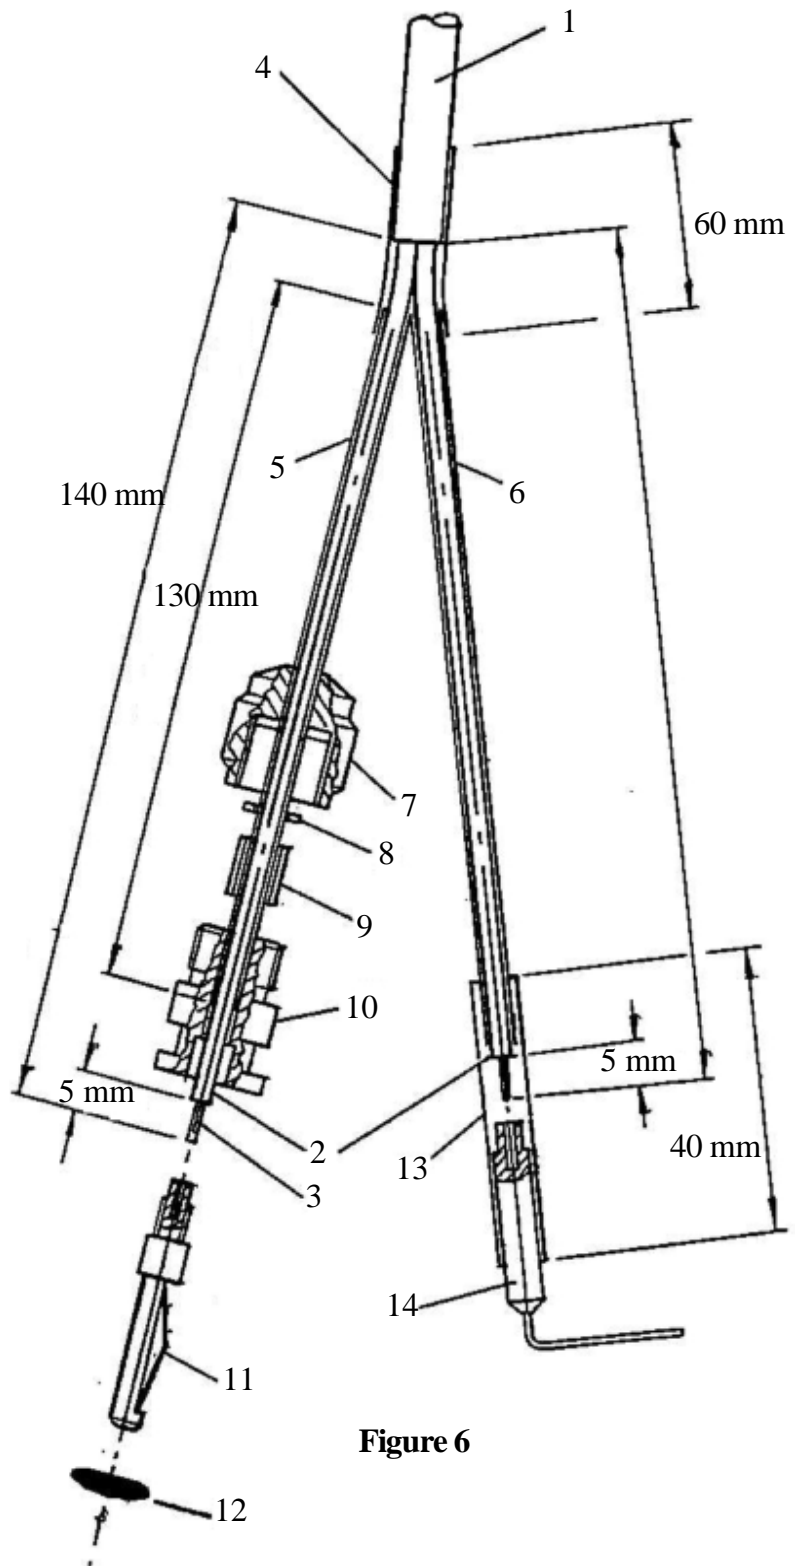

Figure 6
- a. Shorten cable (1) to new length and strip outer insulation (2) to 140mm (red plug end) and 120mm (black plug end).
- b. Expose 5mm of conductors (3) and twist strands tightly, then solder.
- c. Slide on heat shrink sleeve (4) red (5), and black (6) identifying sleeves.
- d. On the positive (+) end, push plug cap (7), washer (8), rubber bush (9) and plug holder (10) over cable.
- e. Lock conductor into plug pin (11), then slide back into plug holder and screw plug cap into place.
- f. Fit rubber seal (12) to plug pin.
- g. For the negative (-) end, slide on black heat shrink tube (13). Push conductor into the earth pin (14) and solder in place. Bring heat shrink sleeve forward onto earth pin and fix down with heat.
- h. Fix down heat shrink sleeve (4) over main cable termination.
- i. Repairs can be made individually to the positive (+) end with steps 2, 4, 5, and 6 and to the negative (-) end, by following steps 2 and 7. However, the shortened ends of the cable might be difficult to assemble conveniently onto the current meter, and it is usually preferable to reconstruct the cable as detailed in figure 6.